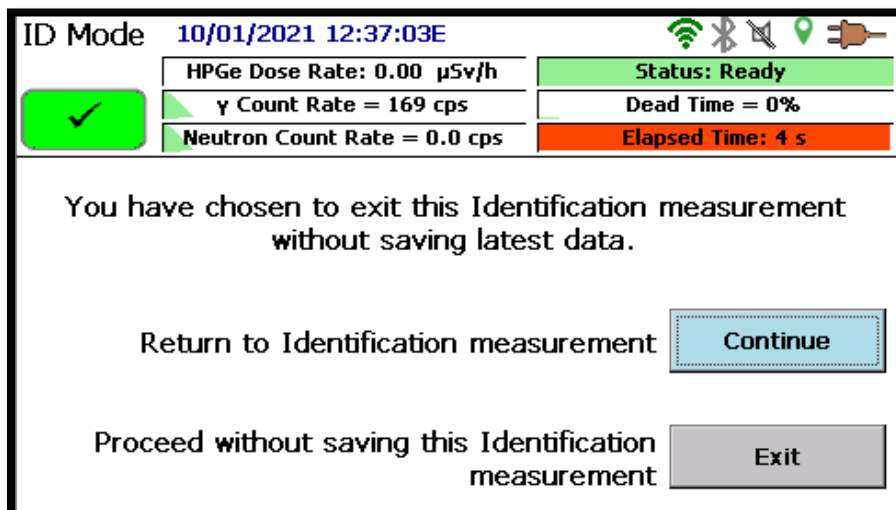

Figure 127. ID Mode Exit Screen
Note that the ID Mode screen uses the same common header as the Monitor Mode screen. The only difference is that instead of displaying the GPS location, the elapsed count time is displayed. If a preset count time has been defined, the elapsed time will display the current time of the preset time (see Figure 127). The background of the elapsed time has a colored green block that increases as the time approaches the total elapsed time. If the count is paused or the preset time is reached, the background color changes to red. If the sound and vibration are activated on the instrument, a buzzer will sound and the instrument will vibrate when the preset time is reached.
- **Exit** – data collection will be concluded, and the screen will change to that seen in Figure 127 with the data not being saved.